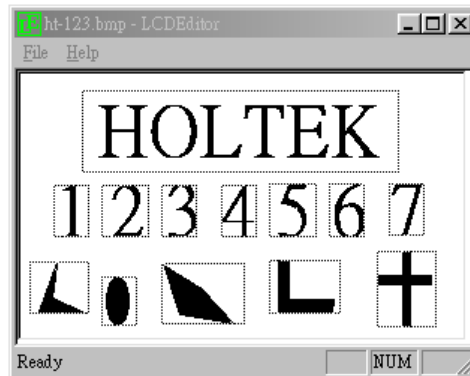

Fig 12-7
- The panel will be displayed in the window as in Fig 12-7